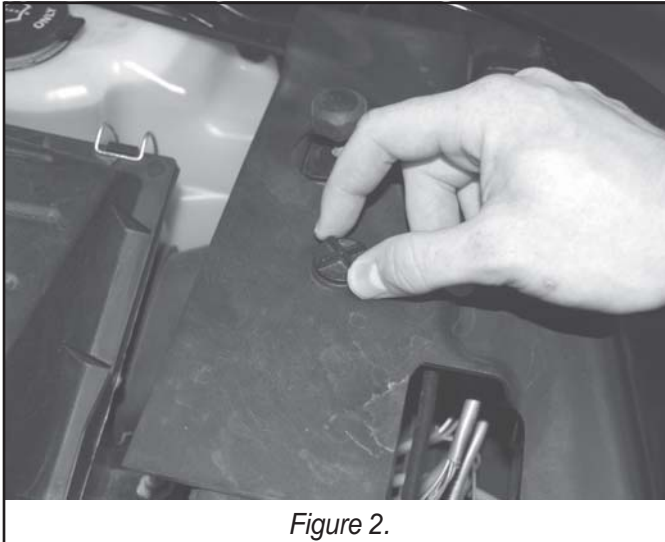

Figure 2.
2. Remove 3 quarter turn plastic fasteners. Retain fasteners for re-assembly. Remove plastic shield. See figure 2 for details.